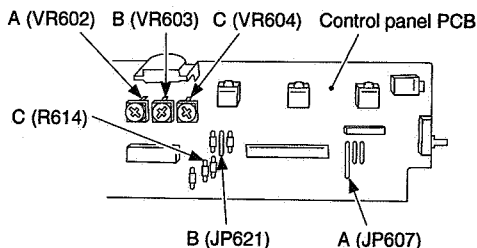

Figure 3-42A (PC320/325/FC230)
- 4) In the case of the PC320/325/FC230, adjust VR602 (A between terminals of VR602 and JP607) and VR603 (B between terminals of VR603 and JP621); see Figure 3-42A.